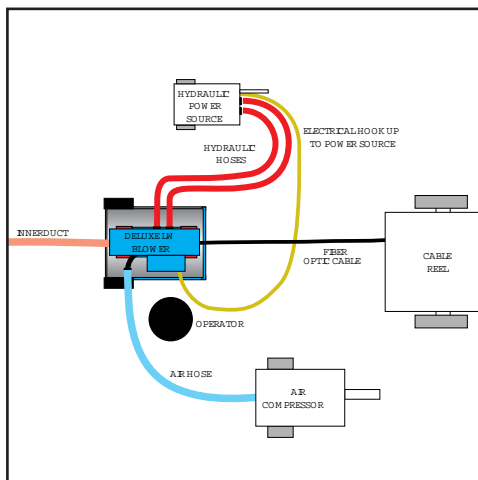

Figure 30. Typical Connections
12. Connect the Air Compressor (Figure 30).